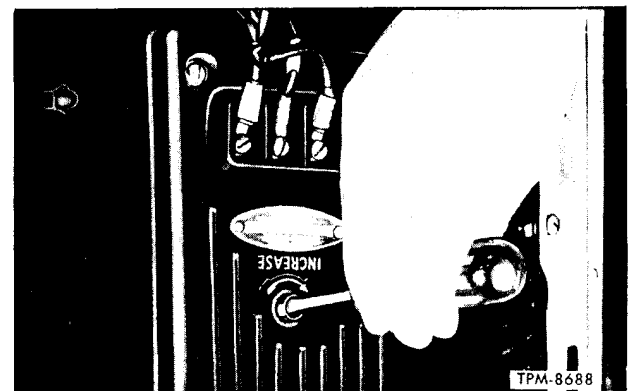

Figure 4—Adjusting Regulator Voltage
4. Observe voltmeter; a steady reading of 13.7 volts should appear. If this reading is not present, remove plug from regulator and adjust potentiometer (fig. 4) until reading is obtained.